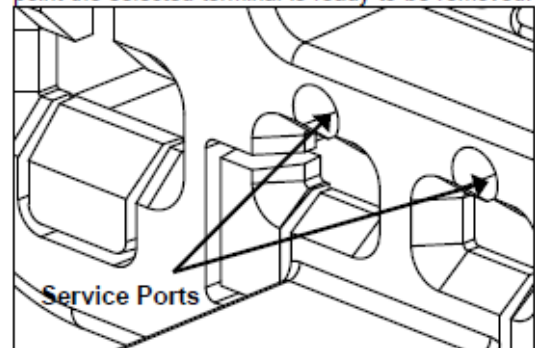

Figure 7
- With the TPA in the "pre-lock" position, insert the tip of the Service Tool into the service port of the terminal in be removed/replaced. (Figure 7). *NOTE: Care should be used so as to not insert the service tool into the terminal opening.*